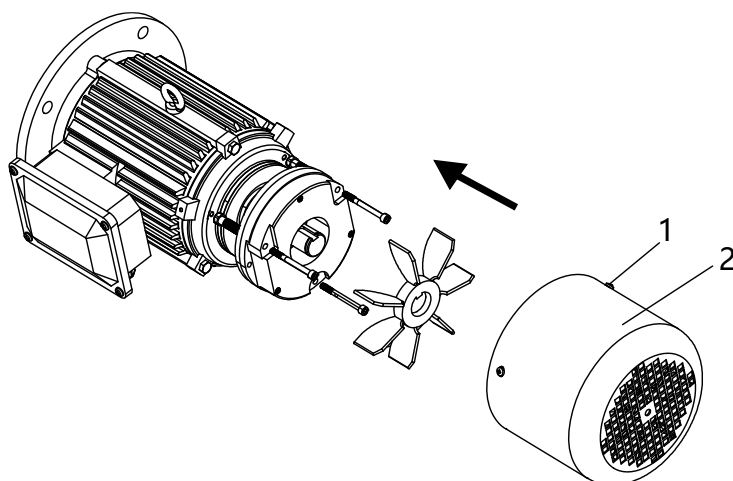

Fig. 6-23
- 3) See Fig. 6-23, install the fan cover ② and tighten the retaining bolts ①.